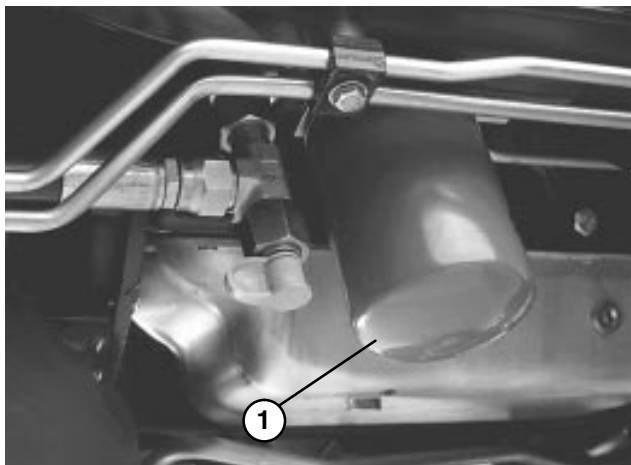

Figure 36
REPLACING HYDRAULIC FILTER (Fig. 36)
2. Clean area around filter mounting area (Fig. 36). Place drain pan under filter and remove filter.